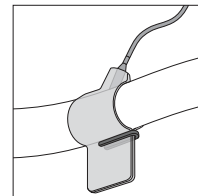

Figure 6
3. Use a vascular clip to secure the strap around the vessel, ensuring the device is snug enough around the vessel to produce a satisfactory Doppler signal (See Figure 6).